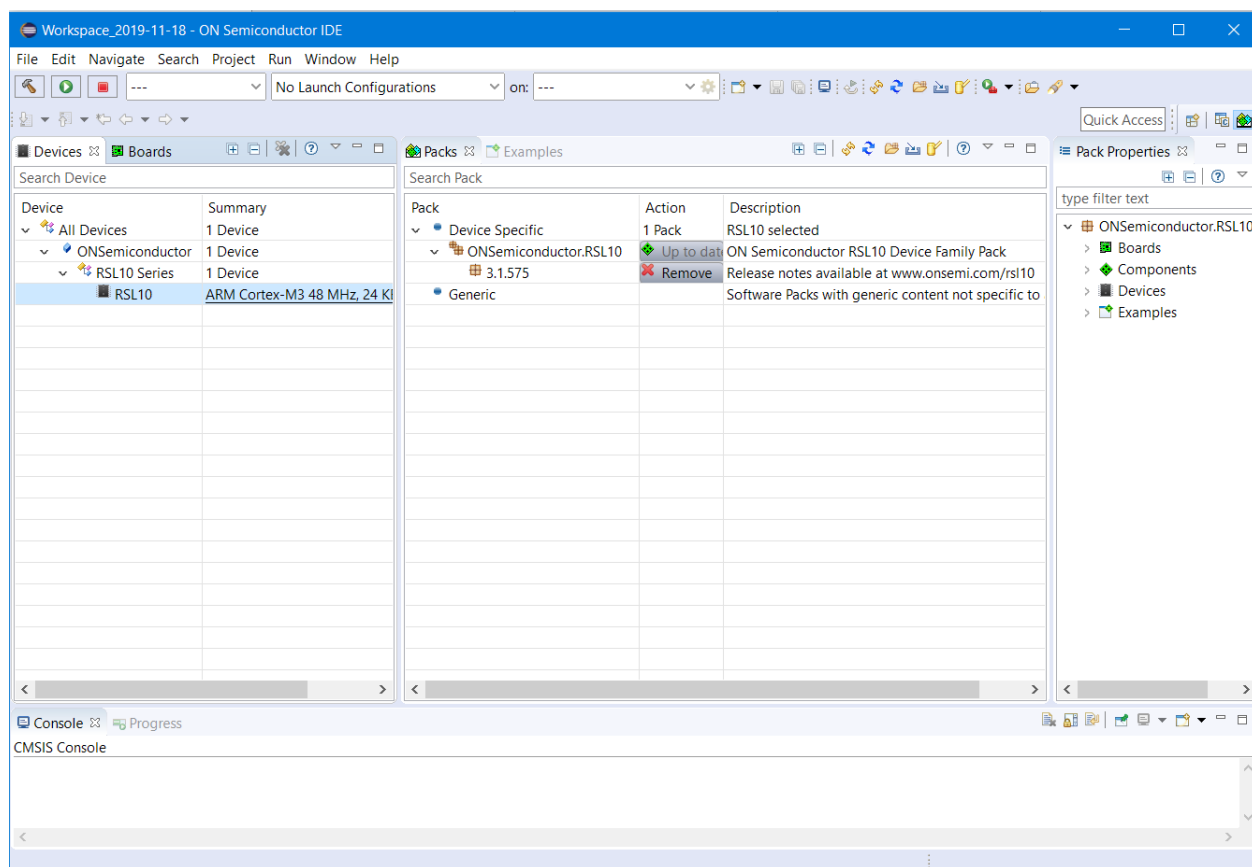

Figure 4. Pack Manager Perspective after RSL10 CMSIS-Pack is Installed
7. The **RSL10** CMSIS-Pack now appears in the list of installed packs. In the **Devices** tab, if you expand **All Devices > onsemi > RSL10 Series** you can see RSL10 listed there. You can manage your installed packs in the **Packs** tab. Expanding **ON Semiconductor > RSL10** makes the **Pack Properties** tab display the details of the RSL10 CMSIS-Pack. The figure "Pack Manager Perspective after RSL10 CMSIS-Pack is Installed" (Figure 4) illustrates what the Pack Manager perspective looks like after installation.